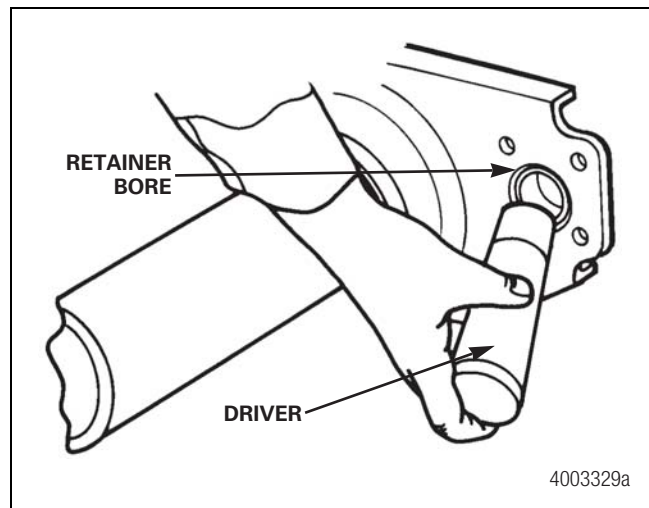

Figure 12.28
3. Drive the following components out of the retainer bore. Verify that the correct size driver is used and care is taken to ensure the bore is not damaged. Figure 12.28.